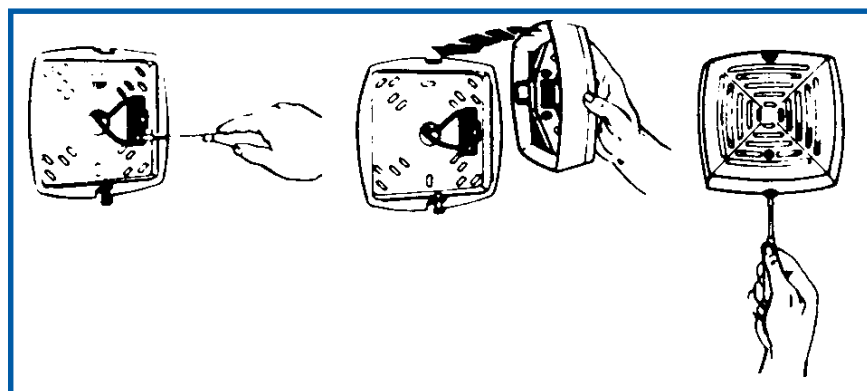

Figure 1. Mounting the Horn on the AdaptaPlate
- Place the horn on the mounting plate so that the tab at the top seats in slot on horn. Press horn firmly against plate and tighten screw at bottom of unit. See Figure 1.